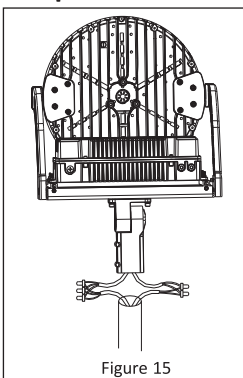

Figure 15
1. Loosen 4 bolts on the Slipfitter mount. Connect the wires according to the **Wiring Diagram**. Push excess wiring into the pole. **See Figure 15.**